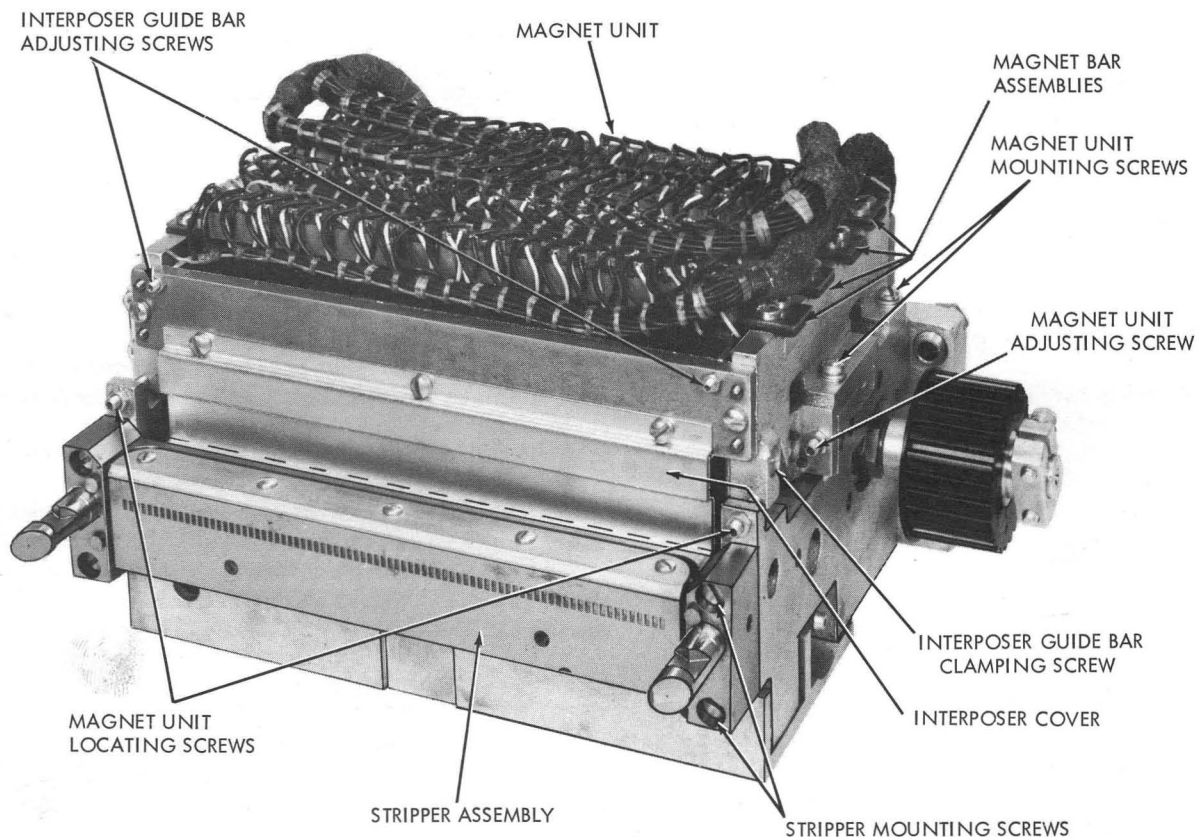

Figure 4-10. Punch Unit
The entire punch unit (Figure 4-10) can be easily removed from the machine for servicing. It can be
- a. Loosen magnet unit mounting screws (Figure 4-10).
3. Remove the interposer cover (Figure 4-10).
5. Remove the four magnet unit mounting screws. Do not disturb the magnet unit adjusting screws (Figure 4-10).